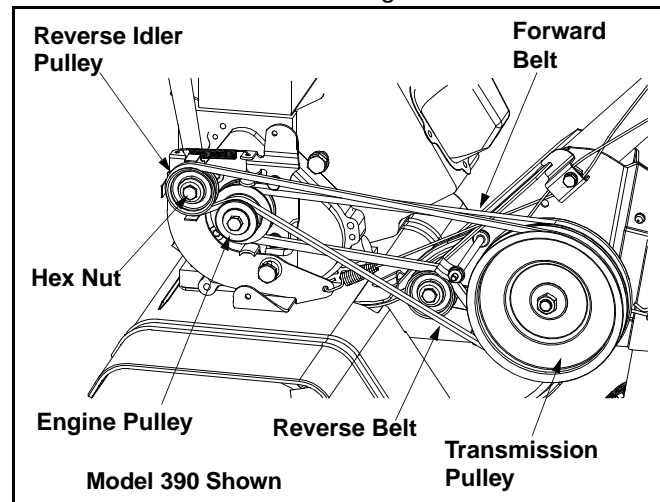

Figure 17
- Remove the hex nut which secures the reverse idler pulley to the idler bracket. Slide idler pulley out and remove the belt. See Figure 17.